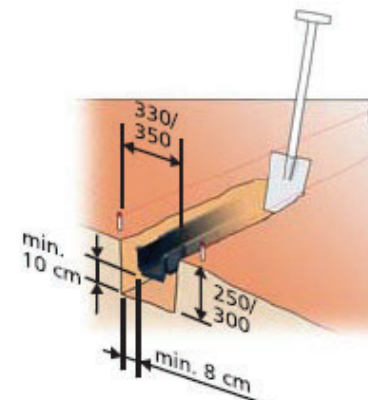

Figure 1.
1. It is required 33-35 cm wide trench approx. 25-30 cm deeply. In this ditch, a concrete base must be made according to the *figure 1*.